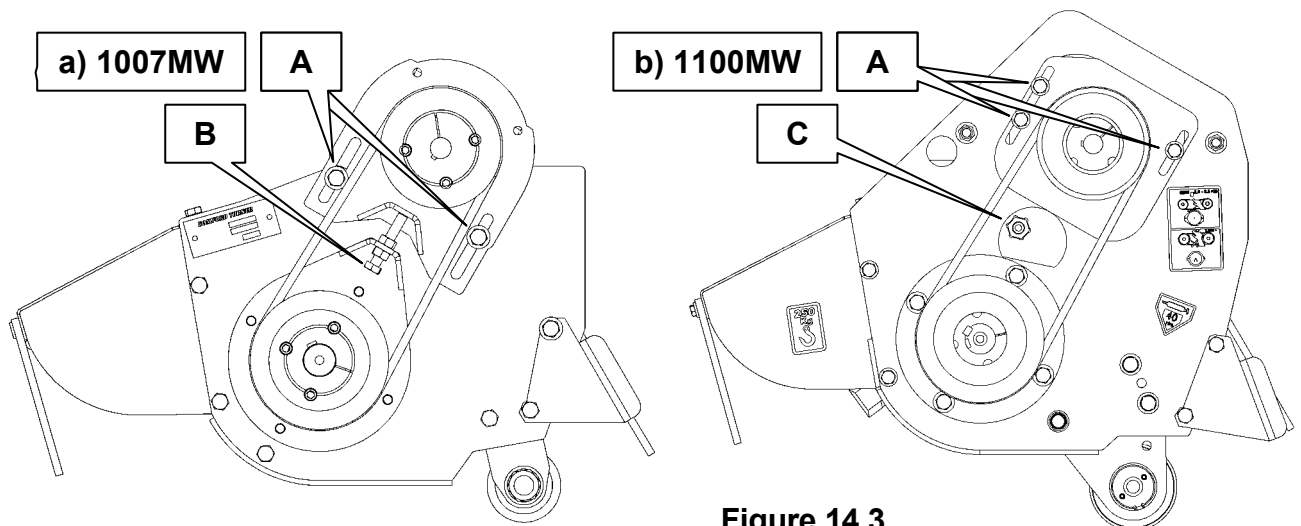

Figure 14.3
- 14.7.4 Release the motor mounting plate bolts (A) in figure 14.3.